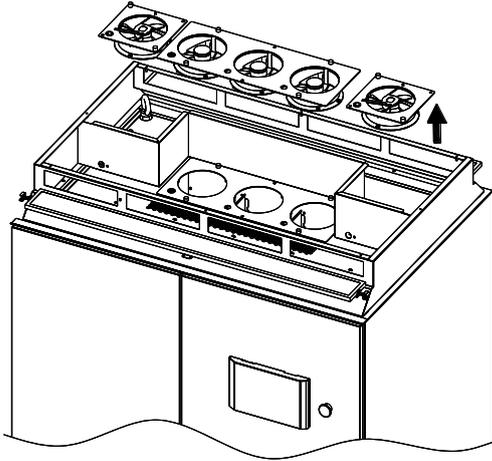

Figure 7-4 Disassembling of fan tray assembly
- (2) Disconnect the buckle on the fan tray, remove the screws on the fan tray, unplug the power supply connector and then take off the fan tray assembly, as shown in Figure 7-4.